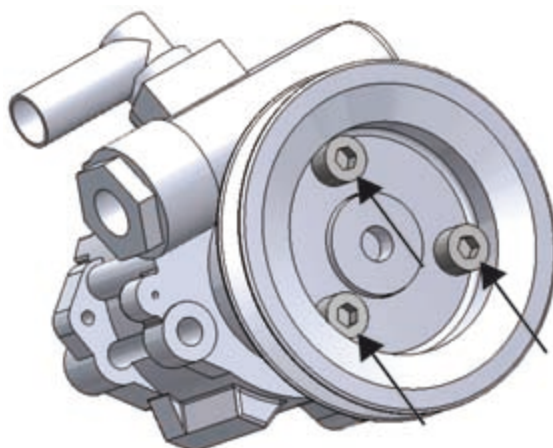

Figure 71. Belt pulley fastening screws
2. Open the three screws that attach the belt pulley to the rack (figure 71).